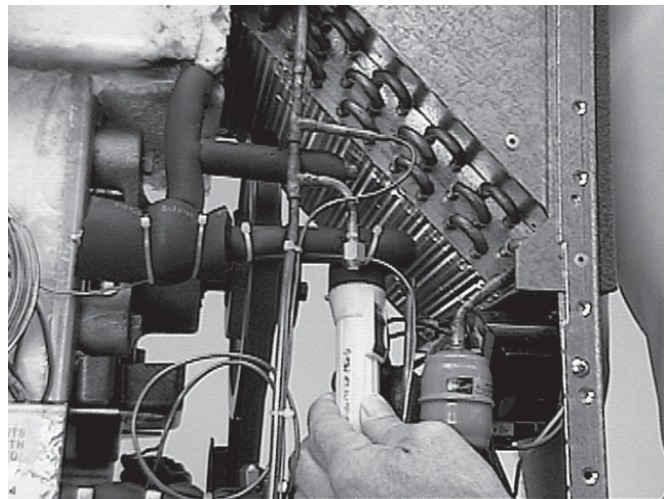

Figure 17. Condenser
3. Visually inspect the condenser for dirt by shining a light through the coil from the back (inside) of the condenser. Figure 17.